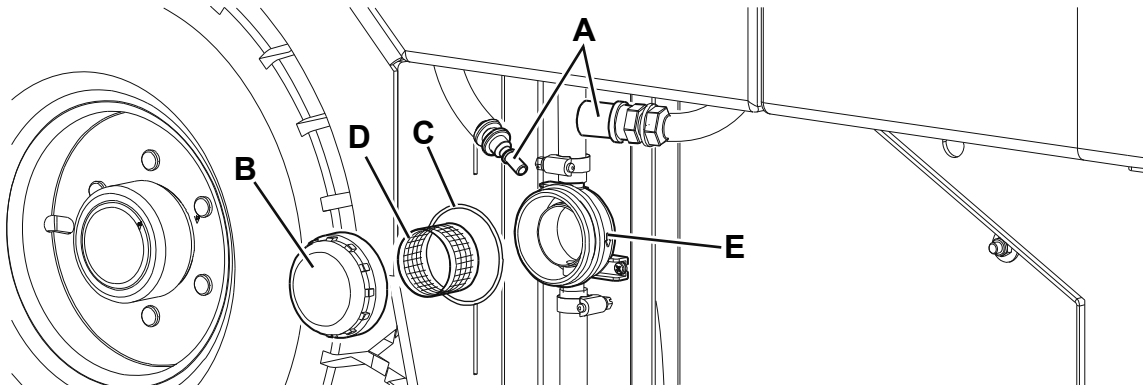

Figure 7
1. Drive the machine on a level floor, engage the parking brake and turn the ignition key (57) to "O".
2. Disengage the quick coupling (A, Fig. 7) from the tank hoses.
3. Remove the left panel (2) to reach the water filter (30).
4. Remove the transparent cover (B) with the gasket (C), then remove the filter strainer (D). Clean and install them on the support (E).